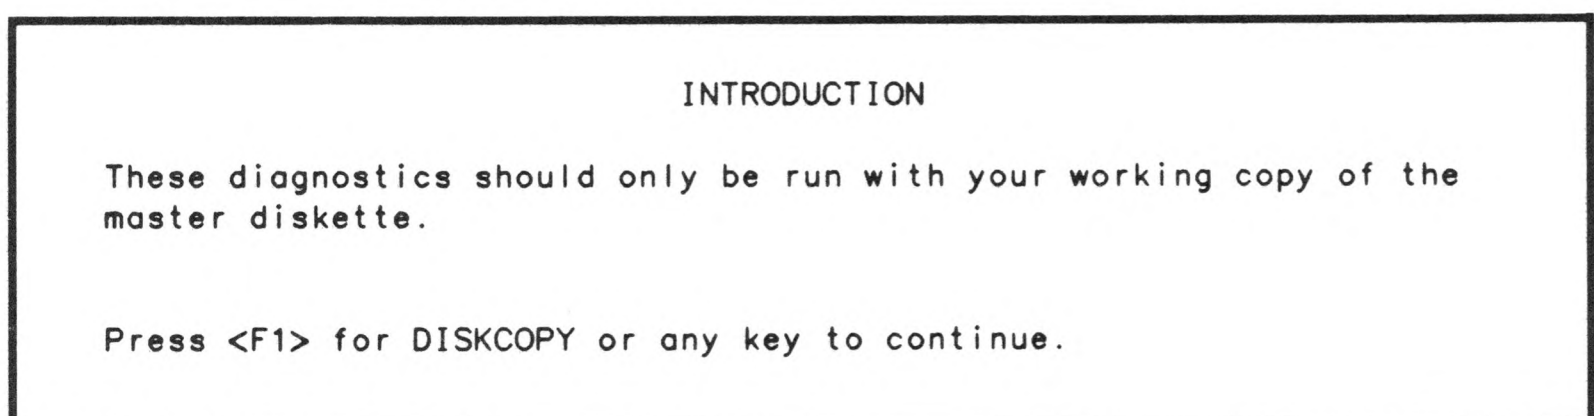

Figure 1-1. Introductory Diagnostics Screen
Step 1 Start the diagnostic program by rebooting your system with the Master User's Diagnostic Diskette in the default disk drive (drive A). The menu shown in Figure 1-1 is displayed.
- Step 2 Press <F1> when the screen in Figure 1-1 is displayed. The following message then displays: